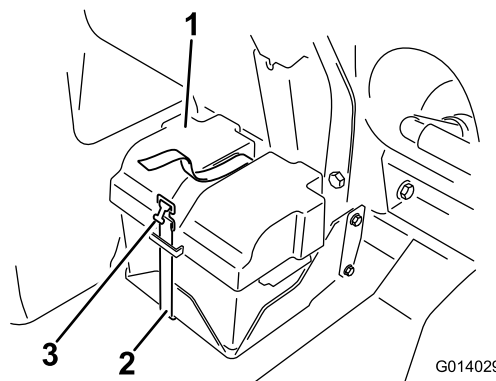

Figure 128
2. Remove the battery cover and disconnect the negative (black) ground cable from the battery post (Figure 128).
4. Install the battery cover and secure it with the strap that you removed previously (Figure 128).